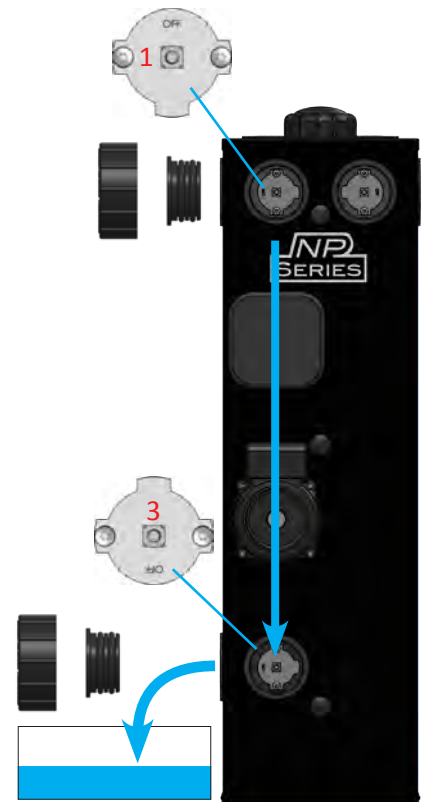

Figure 25: Catching fluid in pump stack when replacing pump motor
3. Remove the cap and plug seal on valve #3. Rotate OFF on valve #3 to the 6-o'clock position and capture the fluid that exits valve #3 in a pan. Retain this fluid to add back to the tank after service is complete (Figure 25).